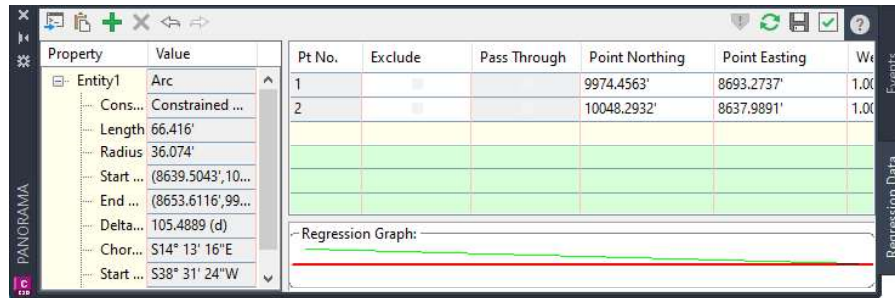

Figure 5-65 The **PANORAMA** window with the **Regression Data** tab chosen
7. Now, click at the tick mark of station **2+00** and press ENTER; the **PANORAMA** window with the **Regression Data** tab is displayed, as shown in Figure 5-65.